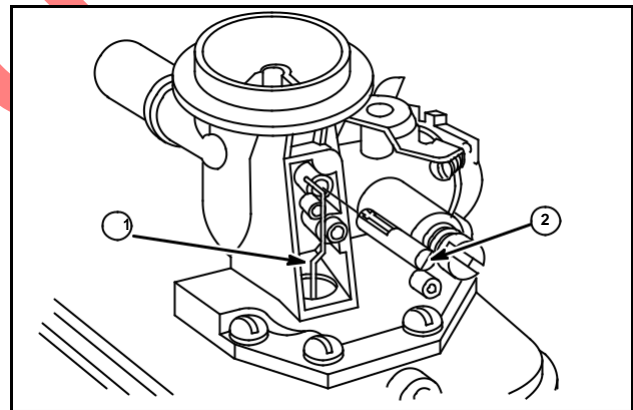

Fig. 28
Remove Automatic Choke (Fig. 28)
2. Then slide choke link (1) out choke shaft (2) lever. Pull shaft out of plate, Fig. 28.